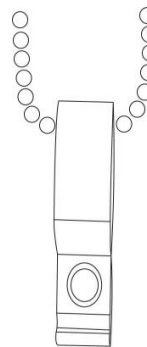

Figure 2
2. Install the tension device onto the reveal/frame using child safety screw (part D), making sure that the loop chain/cord hangs with minimal tension (Figure 2)